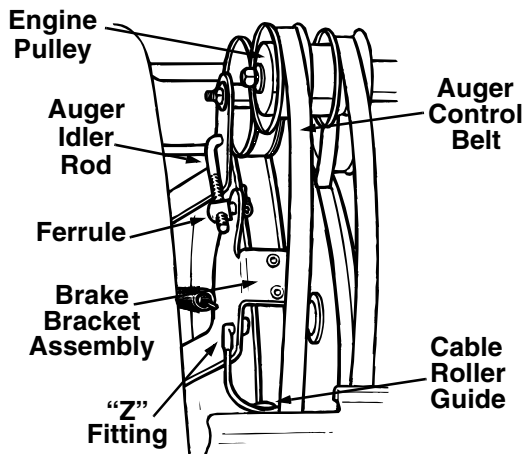

Figure 19
- Remove the cotter pin and washer from the ferrule in order to disconnect the auger idler rod from the brake bracket assembly as shown in Figure 19.
- Slip the auger control belt (the front belt) off the engine pulley. See Figure 19.
- Attach the “Z” fitting of the cable into the brake bracket assembly. Refer to Figure 19.